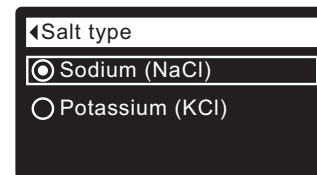

FIG. 38
5. Press the SELECT (O) button to display the Salt type menu (See Figure 38).
6. If the desired salt type already has a black dot next to it (See Figure 38), go to Step 7. Otherwise, press the conditioner's DOWN (▼) or UP (▲) buttons to scroll to the other salt type, then press SELECT (O) to choose it.
7. Press the SELECT (O) button. The display will go back to the Salt settings menu.